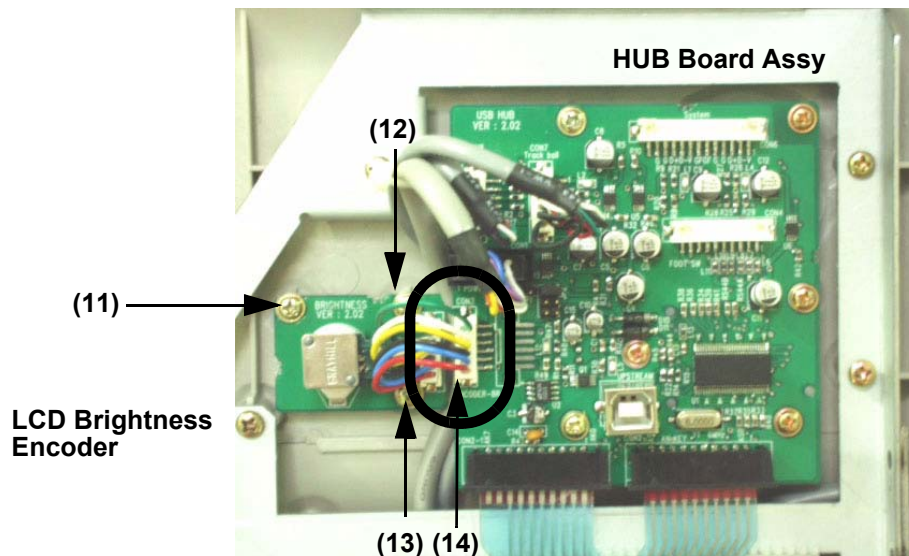

Figure 8-75 Removing LCD Encoder Assy
- 4.) Disconnect one connector (14) from the HUB Board. and Unscrew three (3) screws (11-13) from the LCD Brightness Encoder Assy. Refer to section Figure 8-75 on page 30.